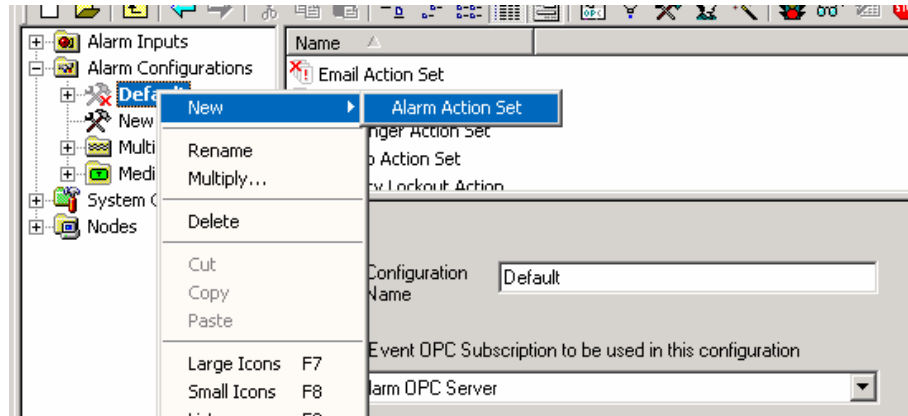

Figure 2.27. Creating a New Alarm Action Set
1. Right-click on **Default** and select **New > Alarm Action Set** from the pop-up menu, as shown in **Figure 2.27**. The **Default** alarm configuration object can be found in the **Alarm Configurations** folder on the tree control.